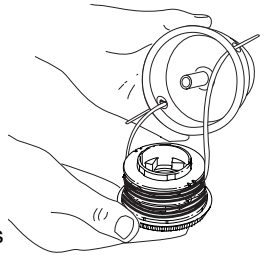

Fig. 21
3. Insert the ends of the prewound inner reel line into the outer spool eyelets (Fig. 21). Push the new inner reel, arrow side up, into the outer spool.